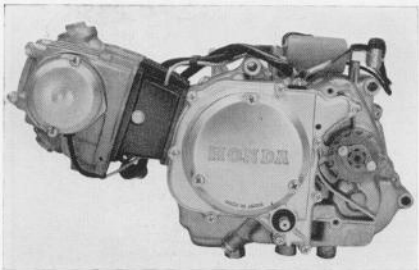

Fig. 3.5 Engine assembly
7. Unhook the brake pedal spring. Remove the nuts mounting the engine (3 for S 90, CL 90, CL 90L, 2 for CD 90) and the rear engine under bolt. Pull out the two 10 mm hex bolt, and the engine can be separated from the frame. (Fig. 3.5)